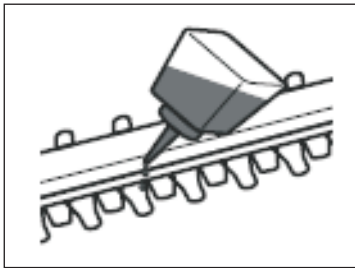
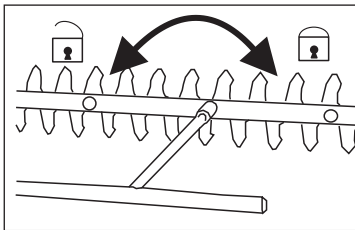

Fig. 24
Fig. 25
1. Keep the cutting device (1) clean and free of debris. Remove trimmings.
2. Apply a small amount of suitable lubricant on the cutting device (1) to retain a good cutting performance (Fig. 24).
3. Keep the cutting device (1) sharp. Have a worn or damaged cutting device replaced with a new one of the same type by a qualified specialist.
4. Tighten loose nuts on the cutting device (1) with a proper wrench with 5 N.m min, 7 N.m max. to ensure safe operation of your product (Fig. 25).